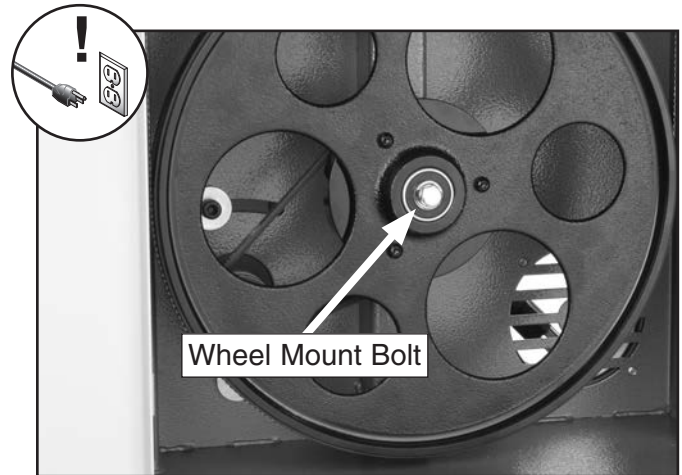

Figure 103. Example of wheel mount bolt.
3. Unthread the lower wheel mount bolt shown in **Figure 103**, and slide the lower wheel off the bearing shaft.